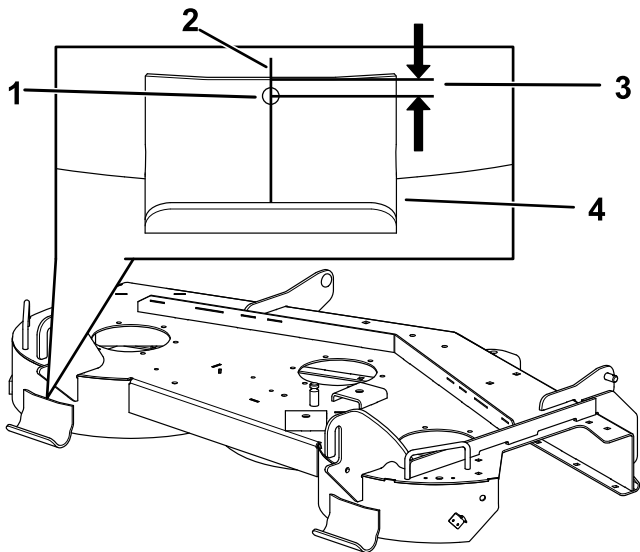

Figure 1
Measure and mark 9.5 mm (3/8 inch) from the top of the left skid on a center line (Figure 1).
2. Drill a hole at the marked location using a 9/32 inch drill bit (Figure 1).